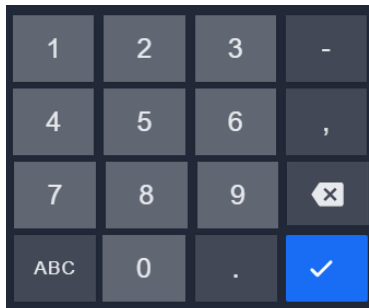

Fig. 1.28
2. Tap the PIN field and enter your four-digit PIN using the pop-up keypad (Fig. 1.28).